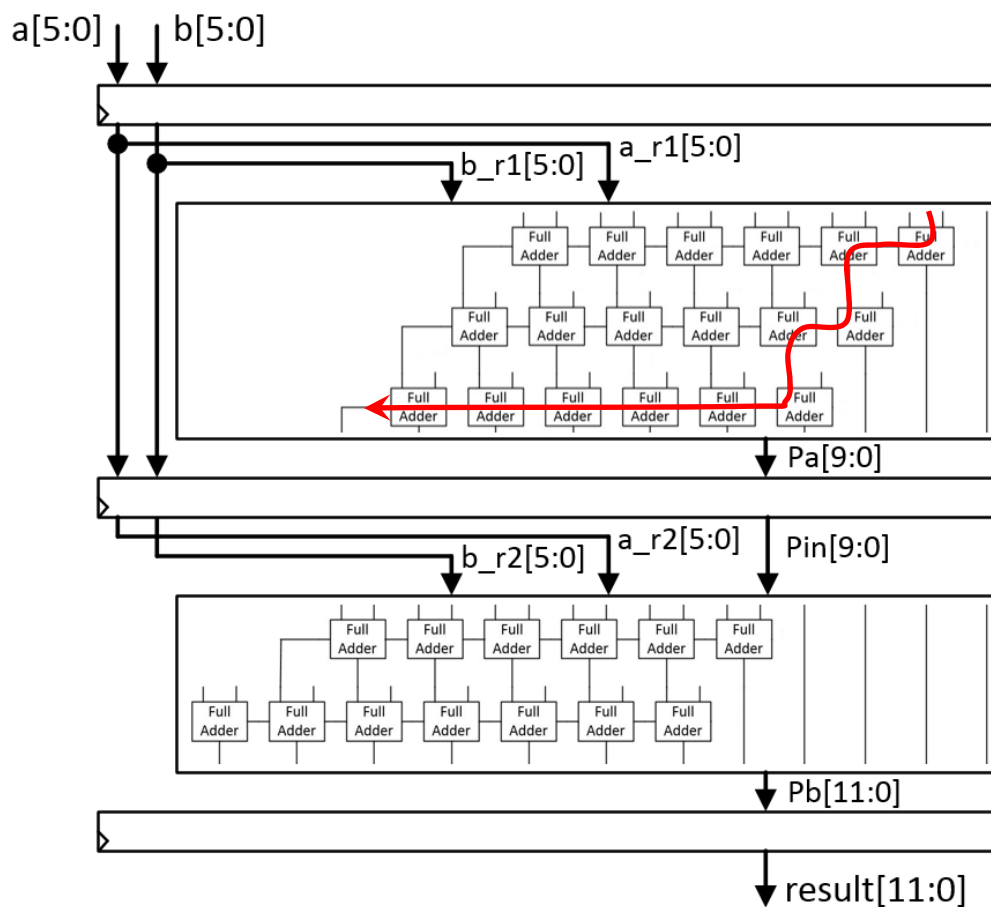

Figure 5. The block diagram of the pipelined multiplier
Now we should pipeline the multiplier design. First, examine the block diagram of the multiplier shown in Figure 3. Note that the critical path is from the inputs to the full adder (FA) block at the top right (b_0a_1 and b_1a_0) to the output from the FA block at the bottom left (P_{11}), and is 15 FA delays. So we need to partition the adder somewhere such that the critical path in the two partitions stays roughly the same. From Figure 3, inserting a pipeline register between the 3rd and 4th adder blocks, gives a critical path of 10 FA delays for the top partition (9 for the bottom). The pipelined design is as shown in Figure 5 (and should use the same signals).
Close the SIMULATION window. Remove *array_mult_6Bit.v* from the project (right click on it and then select “Remove File from project”). Then add *multA.v* and *multB.v* to the design. Open *multA.v* and check that it only uses the first three partial products and that the 10-bit *P* is assigned as the sum of *PP3* and *Isum2* (plus some lower terms). Next open *multB.v*. It uses the original *a* and *b* inputs as well as the 10-bit product (*Pin*) generated in *multA.v* and produces a 12-bit result (*P*). Verify that the two new modules match those shown in Figure 5.